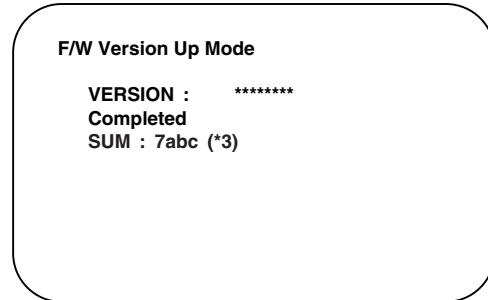

Fig. 3-2-5 Completed Program Mode Screen
5. After programming is finished, the tray opens automatically. Fig. 3-2-5 appears on the screen and the checksum in (\*3) of Fig. 3-2-5 appears on the VFD. (Fig. 3-2-6)